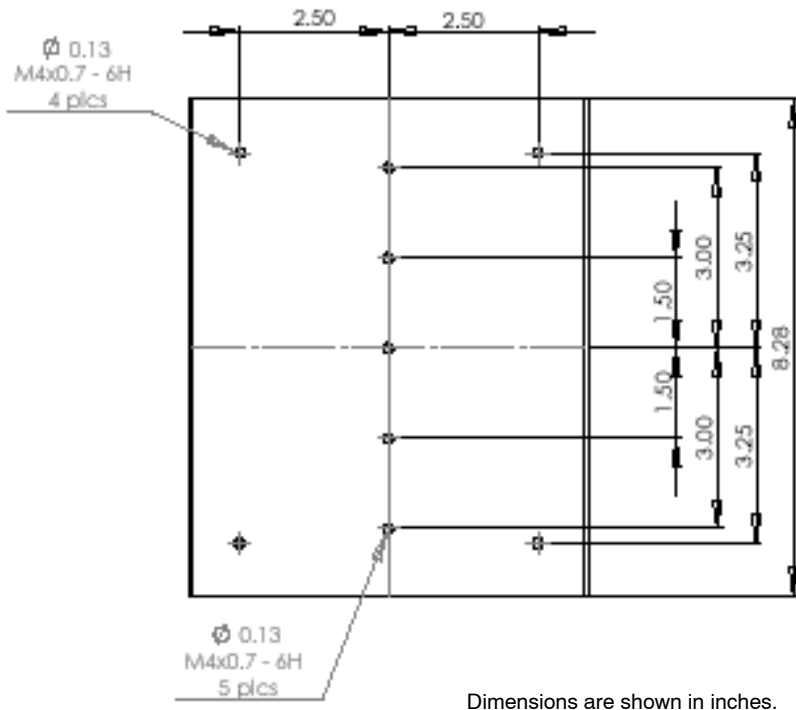

Figure 9. VA61 Mounting Holes
The VA61 provides the means to mount to a standard DIN rail or custom assembly. The mounting holes are located on the base plate of the unit. Location and size of the mounting holes are shown in Figure 9.
1. Mount the Camera(s) and VA61 in a location free from excessive shock, moisture, and vibration. The VA61 can be used with a standard DIN rail mount. Mounting holes are located on the base plate. See Figure 9 on page 18.